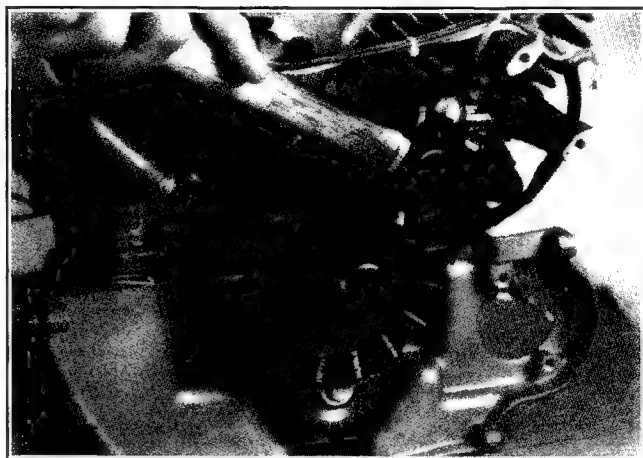

Figure 11-31. Installing Key In Crankshaft.
1. Install the flywheel key into the keyway of the crankshaft. See Figure 11-31. Make sure that key is properly seated and parallel with shaft.